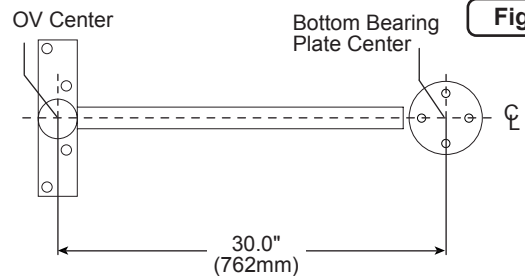

Fig. 11
1. Reconfirm the centerline location for the OV (Figure 11).